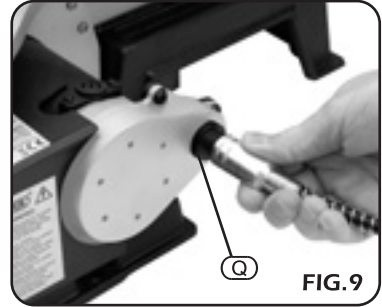

FIG.9
2. Screw the flexible drive shaft into the threaded connector (Q), Fig.9.